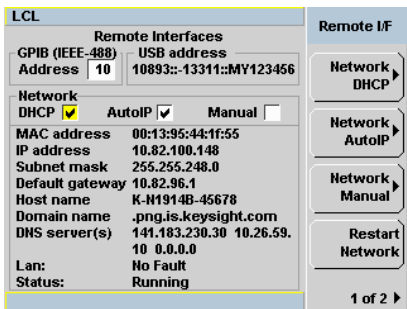

Figure 1-5 Typical LAN Remote Interface
- 3 Press , **Remote Interfaces** to display the Remote Interface display (see Figure 1-5). Ensure that AutoIP is checked.
- 2 Press , **Remote Interfaces** to display the Remote Interface display (see Figure 1-5).